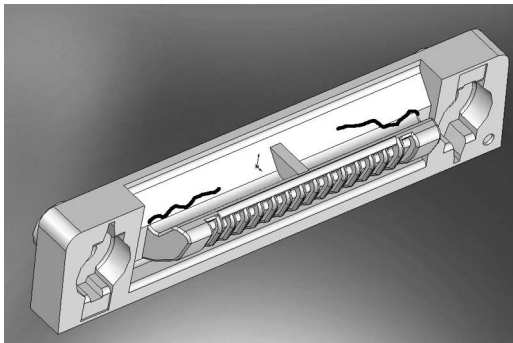

Figure 1 Male IUI Connector
1. Visually inspect the right side (male) IUI connector for cracks on the entire surface of the black colored plastic housing. See Figures 1 and 2 for the male IUI inspection area and typical cracks.